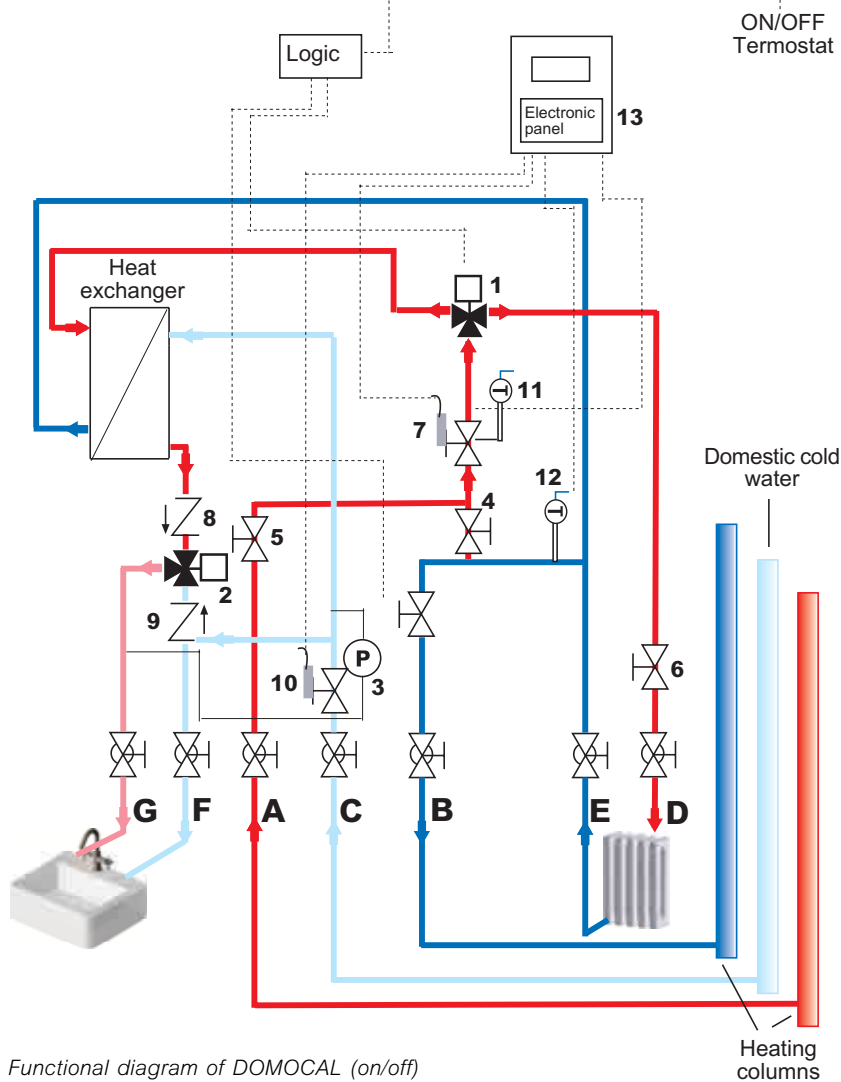

Fig.5 - Functional diagram of DOMOCAL (on/off)
The following diagram shows the residual heads of the on/off unit available for the local heating system circuit with or without a two-way setting valve (pos. 6 – Fig. 5).